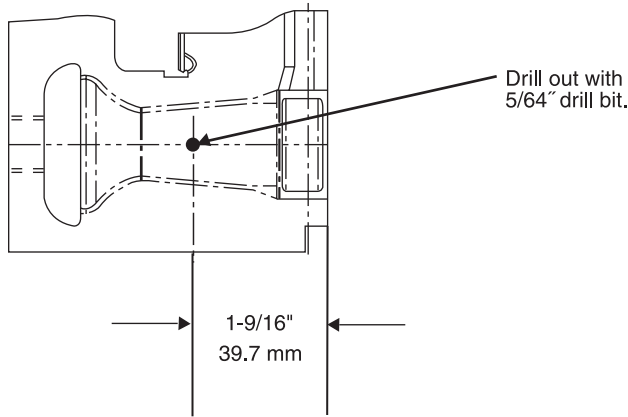

Fig. 3 - Location of Dimple for Spoiler Screw
- f. Locate the dimple on each burner venturi tube (Fig. 3).